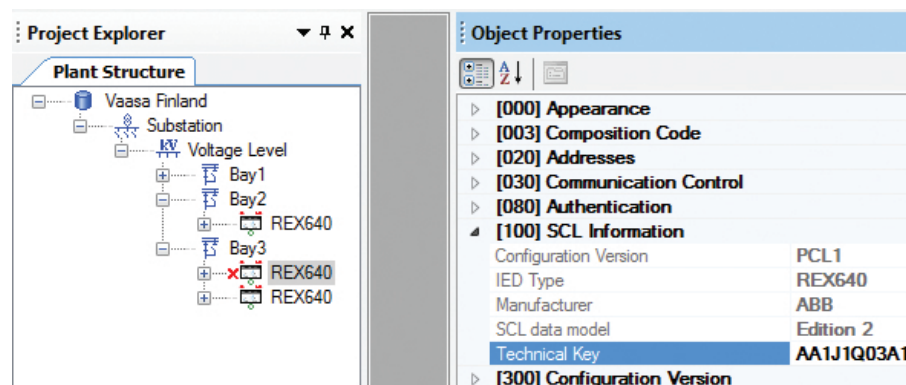

Figure 8: IEC 61850 signal designation concept in PCM600
- The voltage level. In Figure 8 it is 20 kV and J1 is selected from the list below SCL Technical Key in the Object Properties dialog box.